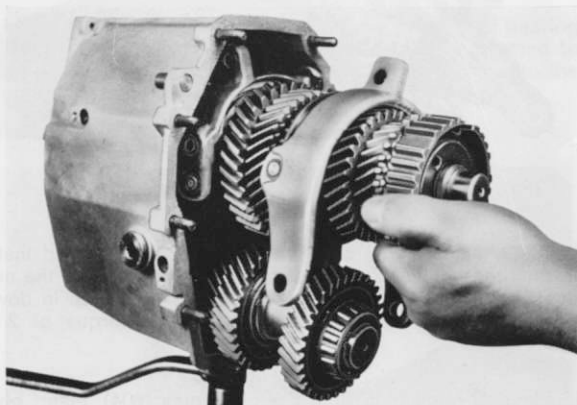

Fig. 42
5. Push preassembled mainshaft with output side first into the bearing base of the housing (Fig. 42). Pay attention to correct position of forks (detent plunger (617) over the detent pad) and the 1st gear (421).